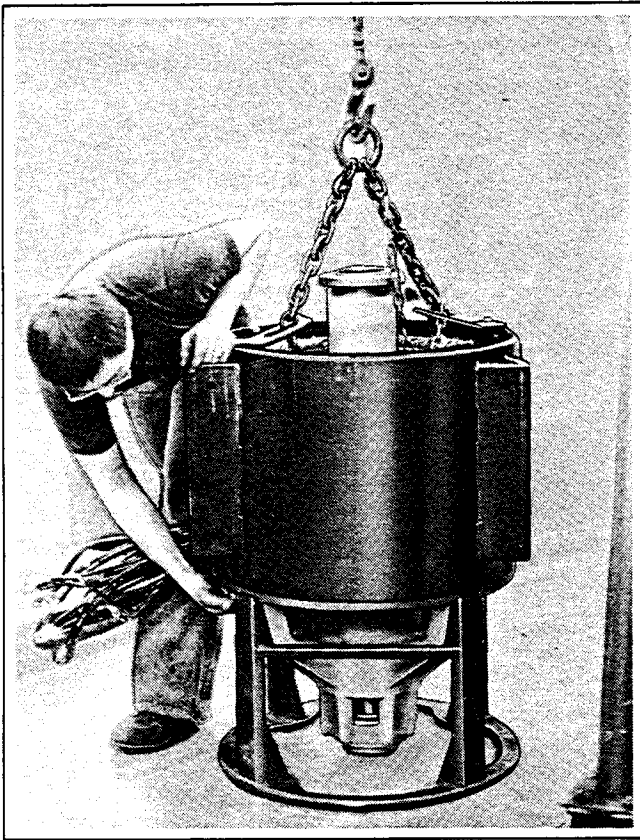

Figure 5-6. Preparing to Remove Stator
16. Fasten chains and hoist to stator. Remove bolts holding stator to end bracket. See Figure 5-6.